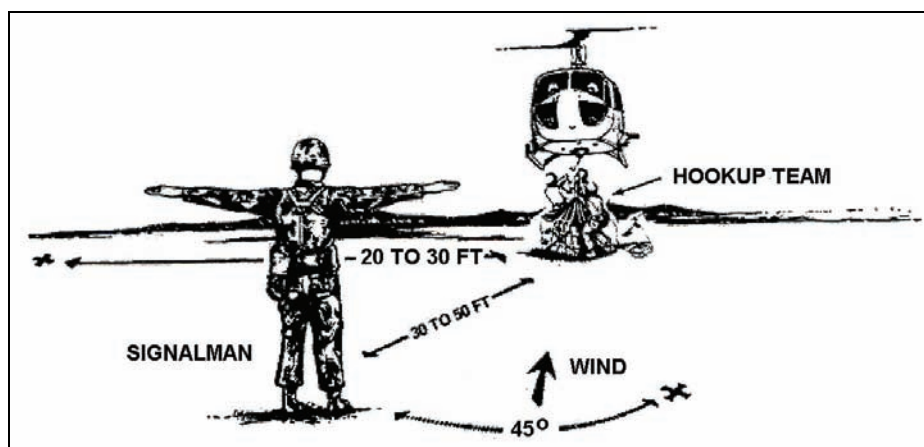

Figure 3-89. Outside Signalman
- h. Appoint an outside signalman to give hand and arm signals to pilot (see Figure 3-89).